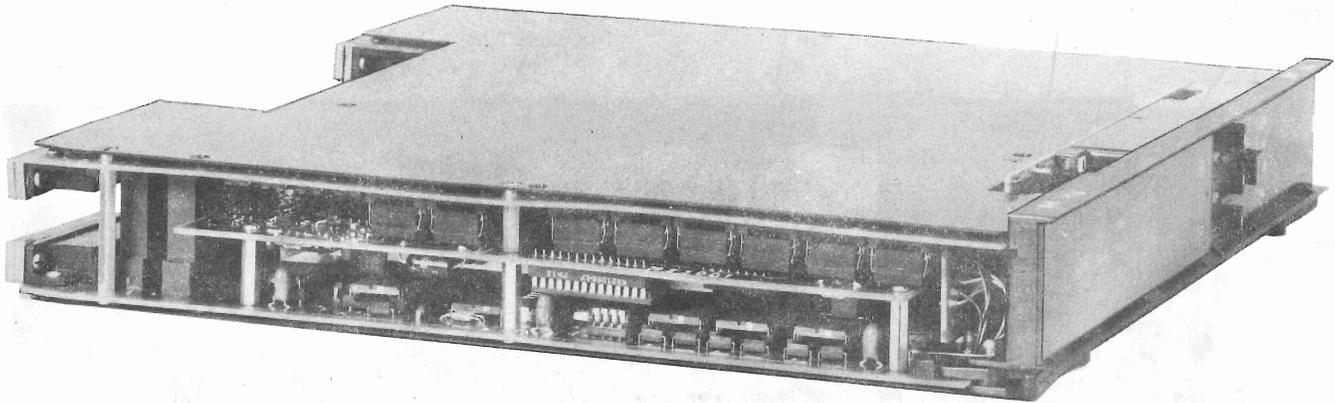

Fig. 6—DATAPHONE II Service Data Set (Typical)
**2.05** Each private line data set is composed of two printed circuit boards with protective cold plates attached to a single faceplate as shown in Fig. 6. The overall dimensions of each data set circuit board assembly are 2 inches wide, 12 1/2 inches long and 11 1/2 inches high. Each assembly weighs approximately 4 1/2 pounds.